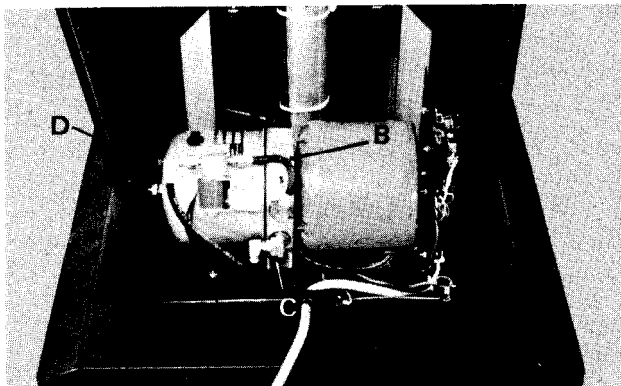

Fig. 30
- 2) Remove the (3) motor leads T1, T2, and T3 from terminal board. See Wiring Diagram on Page 27.
- 5) Remove the (4) hex nuts, Item A, Fig. 30 securing the motor base in place.
- 6) Tilt motor base and remove the (2) hex bolts securing the motor/pump to the motor base.
- 9) Remove the short pump hose, Item B, Fig. 30 from the pump by removing the fitting with a 1/2" wrench.
10) Remove the power hose, Item C, Fig. 30 from the pump by removing the fitting with a 1/2" wrench.
13) Place new motor/pump on motor base, align holes on the underside and install (2) 1/2" lockwashers and (2) 1/2"-13 x 1" hex bolts.
15) Replace power hose, Item C, Fig. 30 on pump, tightening the fitting securely with a 1/2" wrench.
16) Replace short pump hose, Item B, Fig. 30 on pump, tightening the fitting securely with a 1/2" wrench.
18) Place motor base on shock mounts, align holes, and install (4) 1/4" lockwashers and (4) 1/4"-20 hex nuts, Item A, Fig. 30.
21) Replace the (3) motor leads T1, T2, and T3 on the terminal board. See Wiring Diagram on Page 27.
The motor/pump assembly complete with mounting bracket and all external hardware as shown in Fig. 30 may be removed and replaced as a single unit by:
8) Remove the (4) hex nuts, Item A, Fig. 30 securing the motor base in place.
9) Remove the power hose, Item C, Fig. 30 from the pump by removing the fitting with a 1/2" wrench.
10) Remove the return hose, Item D, Fig. 30 from the anticavitation solenoid valve by removing the fitting with a 1/2" wrench.
13) Replace return hose, Item D, Fig. 30 on the anticavitation solenoid valve and tighten fitting securely.
14) Replace power hose, Item C, Fig. 30 on the pump and tighten fitting securely.
15) Install the (4) hex nuts, Item A, Fig. 30.